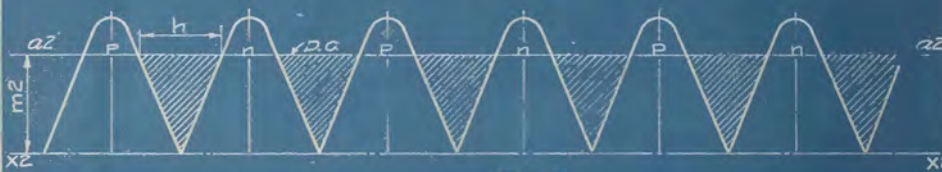

Fig. 3
Full-wave or "Two wave" rectification is shown in Fig. 3. In this case the positive waves (P) are allowed to pass freely through the rectifier as before, but instead of suppressing the negative waves they are turned up by an independent rectifier and made positive waves. The converted negative waves (n-n) are then inserted between the positive waves so that we now have twice the energy that we had in the half-wave system, and further, the application of the energy is more uniform with correspondingly less demand on the filter system. With an equal amount of filter inertia, indicated by the shaded